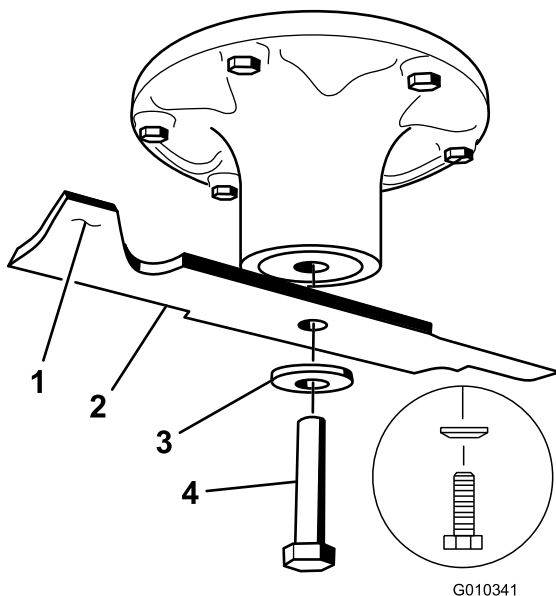
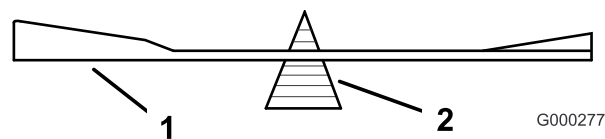

Figure 66
Figure 68
Hold the blade end using a rag or thickly-padded glove. Remove the blade bolt, curved washer, and blade from the spindle shaft (Figure 66).
2. Check the balance of the blade by putting it on a blade balancer (Figure 68). If the blade stays in a horizontal position, the blade is balanced and can be used. If the blade is not balanced, file some metal off the end of the sail area only (Figure 66). Repeat this procedure until the blade is balanced.
1. Install the blade onto the spindle shaft (Figure 66).
2. Install the spring disk and blade bolt. The spring disk cone must be installed toward the bolt head (Figure 66). Torque the blade bolt to 100-110 ft-lb (135-150 N-m).